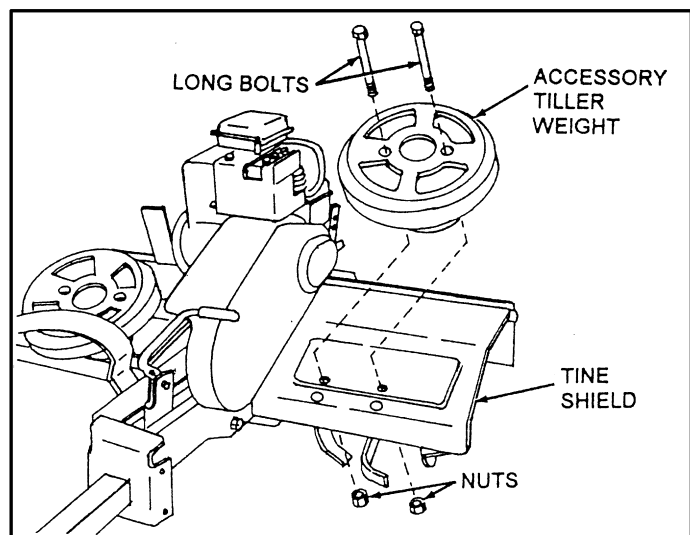

FIG. 3
- Remove two Carriage Bolts and Nuts from the front of each Tine Shield, located approximately 3-1/2 inches from the front edge. (See Fig.3)